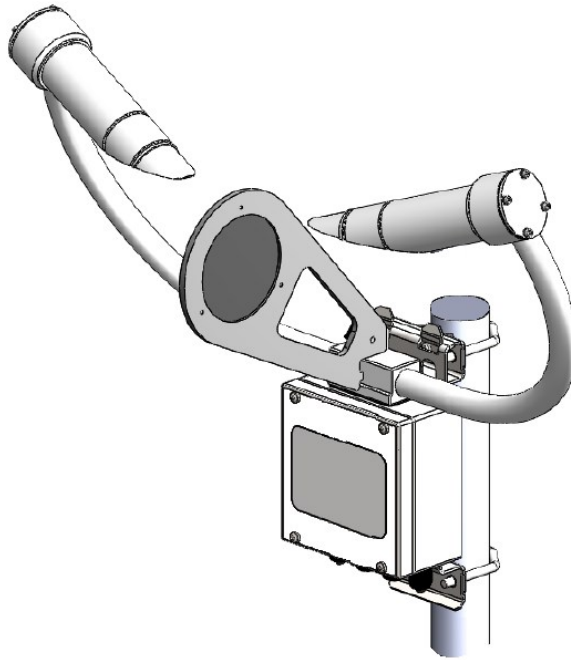

Figure 7-2. Mounting calibration disk
- Place the sensor calibrator into the volume by fastening it to the central mounting point (see Figure 7-2 [p. 69]).